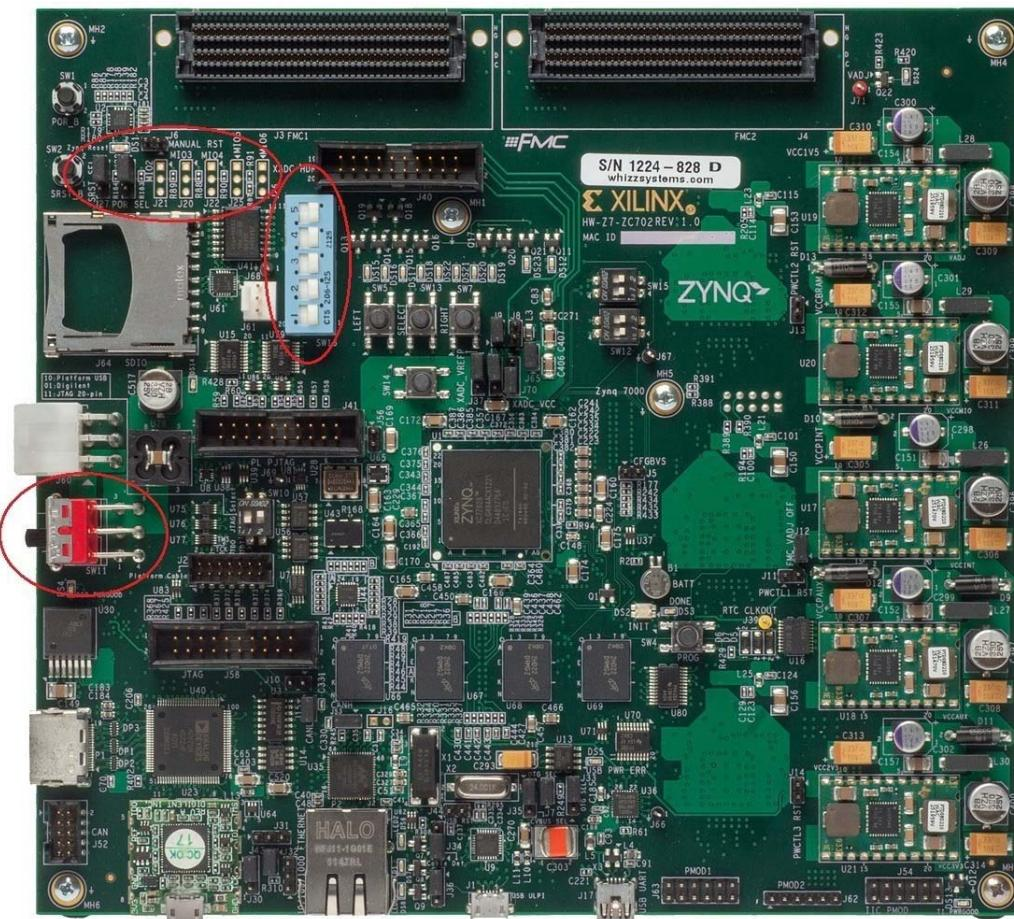

Figure 2-22: ZC702 Board Power Switch
**IMPORTANT:** Ensure that jumpers J27 and J28 are placed on the side farther from the SD card slot and change the SW16 switch setting as shown in Figure 2-22.